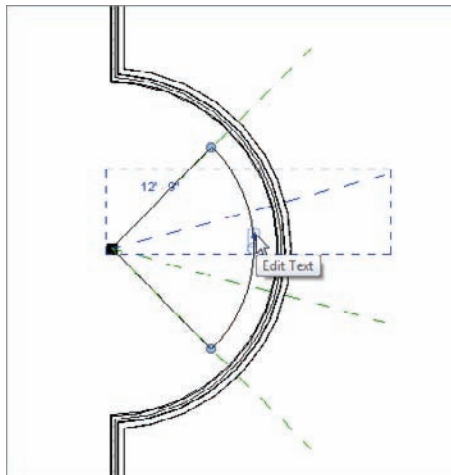

FIGURE 4.15 After the array is created, select one of the arrayed members. Notice that you can change the count.
13. Click (that is, left-click) off into another part of the view. This establishes the array. You should have four reference planes at this point, similar to Figure 4.15.
14. Select (left-click) one of the reference planes. You will see a large dashed box surrounding the reference plane. You will also see a temporary arc dimension with a blue number 4 at the quadrant. It may be obscured by the arc, as it is in Figure 4.15, but it is there nonetheless.